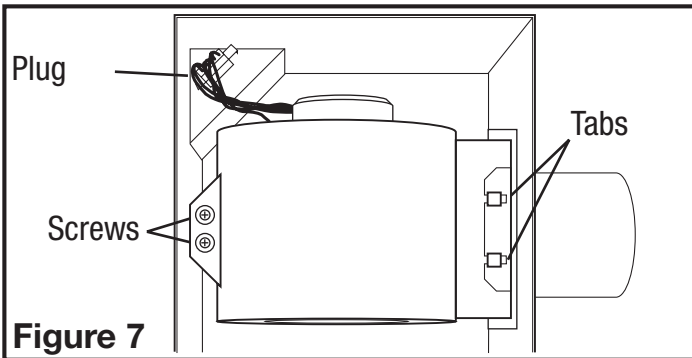
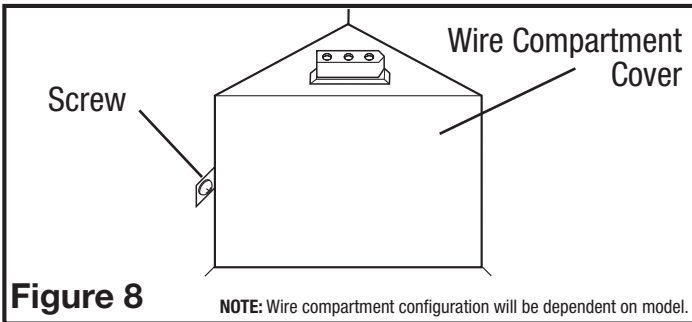

Figure 7
Figure 8
- 1b. **Internal Wire Compartment:** If the motor is already installed in the housing, remove the two screws holding the blower assembly in place. Lift up on the assembly and slide it out of the tabs on the housing (**Figure 7**). Remove the wire compartment cover screw and place the cover in a secure place (**Figure 8**).